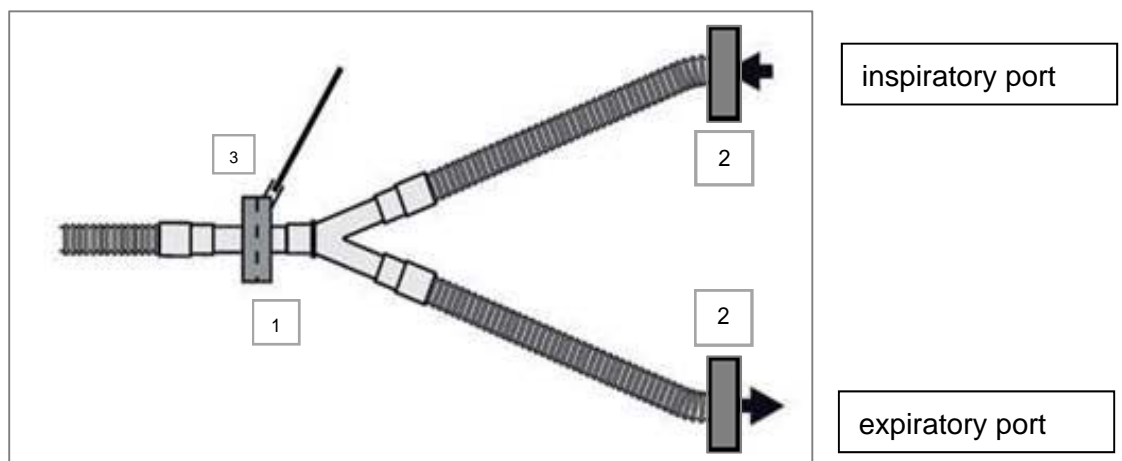

Figure 2: System setup recommendation for pediatric patients
- Use HME or an HMEF such as TwinStar 25 (MP01815), TwinStar 10A (MP01825) or TwinStar 8 (MP01820) between the tracheal tube and the Y-piece of the breathing circuit (hoses) (see position 1/ figure 2).
Caution: The sample line should be connected on the device side of the HME / HMEF (see position 3/ figure 2). If a filter is used between the tracheal tube and the Y-piece of the breathing circuit (hoses) and the sample line is connected on the patient side of the HME / HMEF air can be drawn from the patient's lungs if the filter material gets clogged.
- Use mechanical BSFs (adult) e.g. Dräger SafeStar 55 (MP01790) at each the expiratory and the inspiratory port of the anesthesia machine (see position 2/ figure 2).